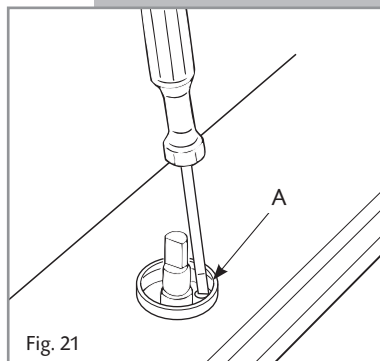

Fig. 21
- Turn the screw A to the correct setting with a screwdriver (fig. 21).